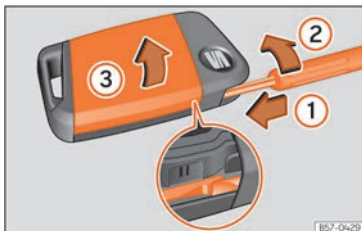

Fig. 76 Vehicle key: opening the battery compartment cover.
- Insert a flat blade screwdriver into the vehicle key, through the outer guide of the emergency key, approx. 1 cm in the direction of the arrow »» Fig. 76 ①.
- Turn the screwdriver clockwise until the cover opens »» Fig. 76 ②.
- Open the cover in the direction indicated by the arrow »» Fig. 76 ③ and remove it »» ①.